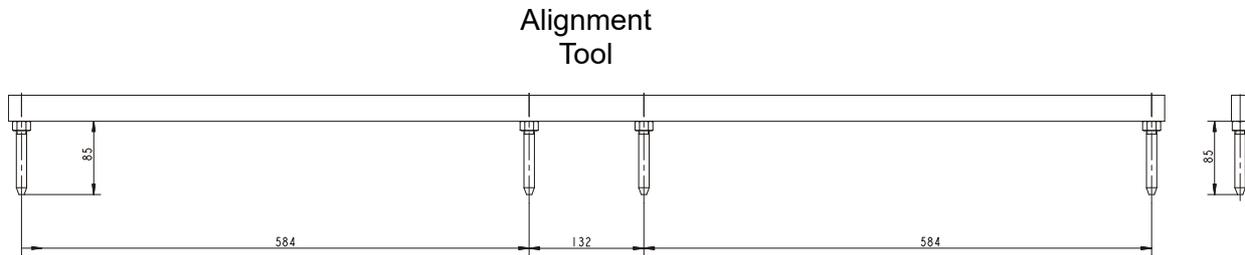

FIG. 5-14
1. The service tool can be ordered in Wood-Mizer (Part. No. 099330) or you can make it yourself according to figure 5-14.
See Figure 5-14.